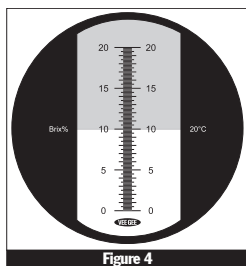

Figure 4
- 4 When the refractometer scale is viewed through the eyepiece, the upper field of view will be seen as blue and the lower field will be seen as white (Figure 4). The reading is taken at the point where the boundary line of the blue and white fields crosses the scale (Figure 5). The value is the Brix% reading of the sample.